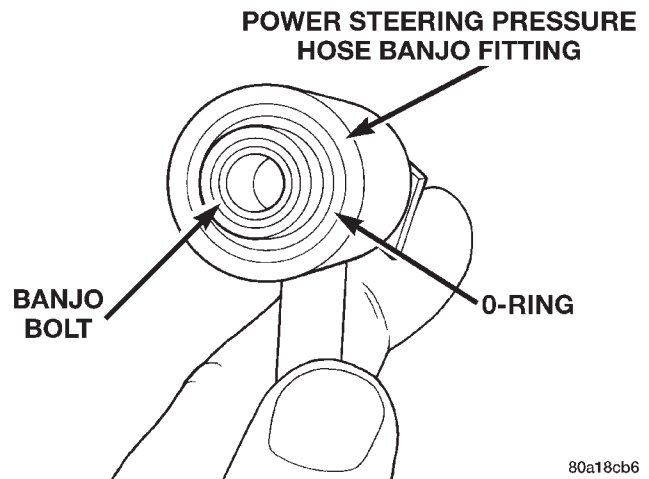

Fig. 14 O-Ring Installed In Banjo Fitting
(3) Install a new O-ring on the end of the power steering pressure hose banjo fitting (Fig. 14).